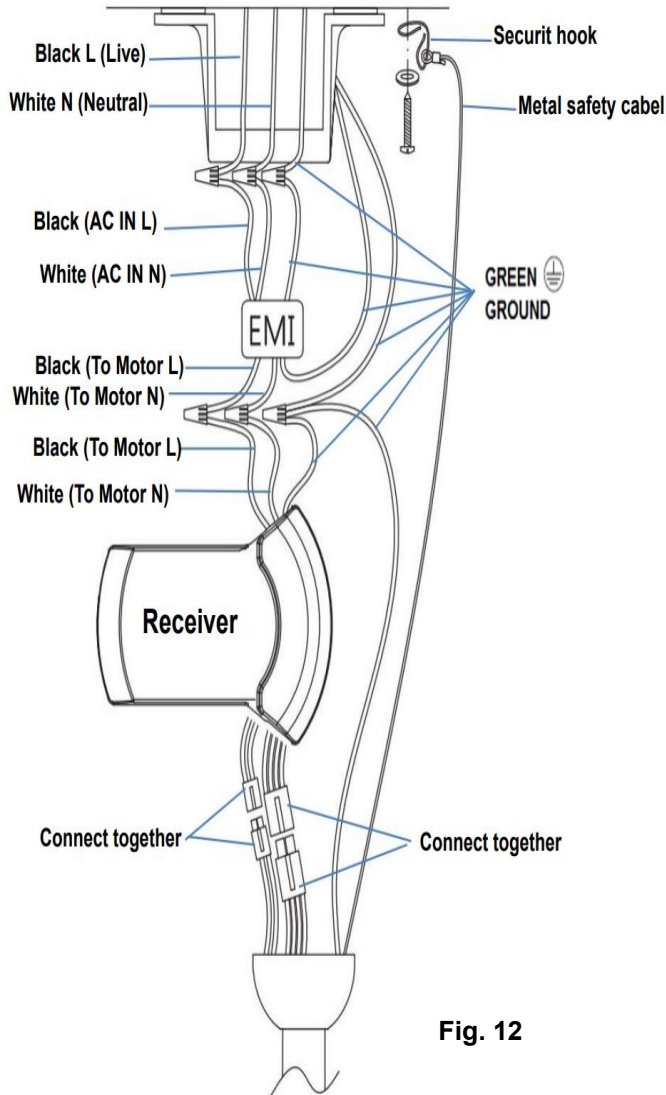

Fig. 12
- Complete the electrical wiring according to the 'ELECTRICAL WIRING DIAGRAM' section below. (Fig.12)
2. Connect the household live supply wire (black) to EMI filter input wire (black, AC IN L) as shown in **(Fig.12)**